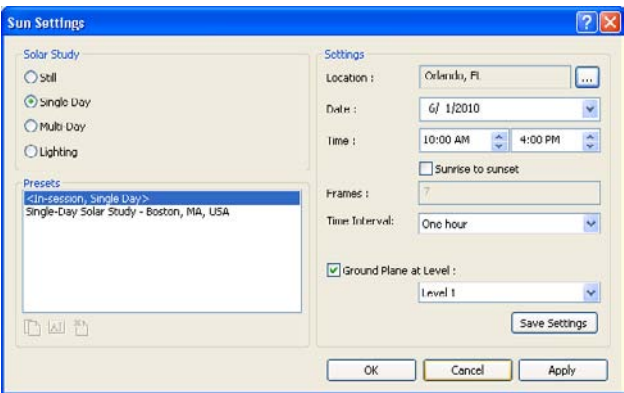

Figure 9.5
10. In the Sun Settings dialog box, set the Solar Study radio button to Single Day, as shown in Figure 9.5.